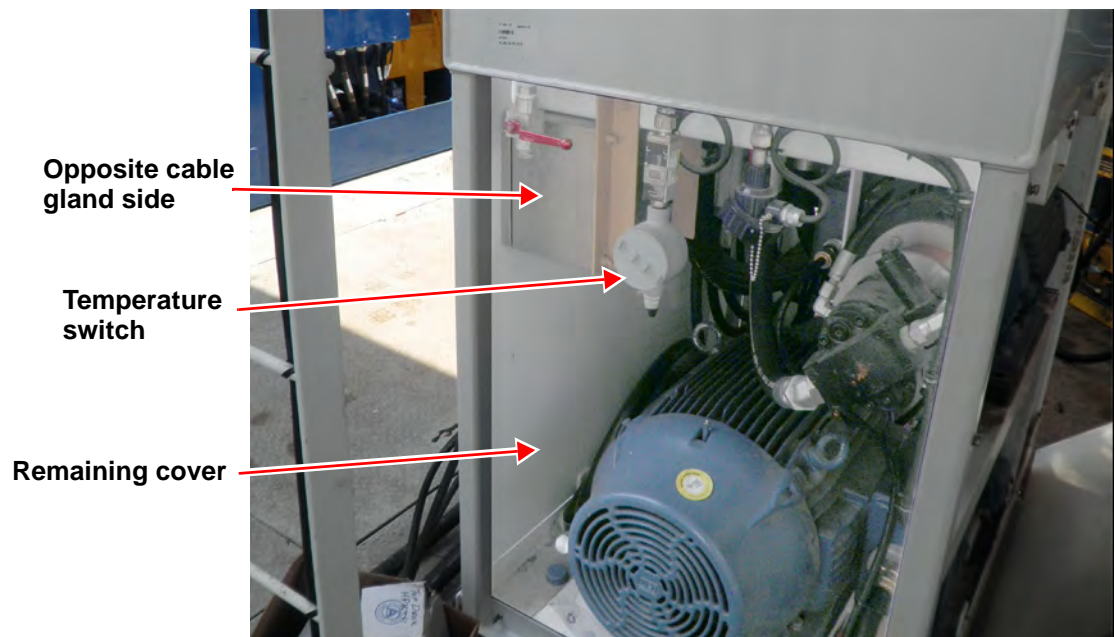

Figure 8: Opposite side cover and temperature switch
- Remove the remaining cover and situate the VFD enclosure with the cable glands away from the temperature switch to get a reference on the mounting holes (See Figure 8).